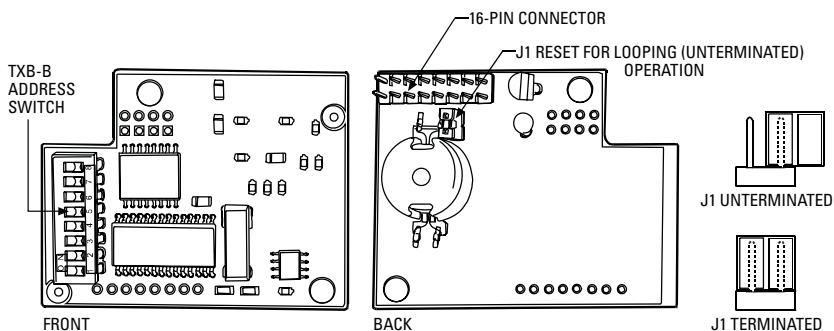

Figure 18. TXB-B Termination and DIP Switch
3. Set the J1 jumper on the TXB-B to the proper termination setting (refer to Figure 18). Note the following: